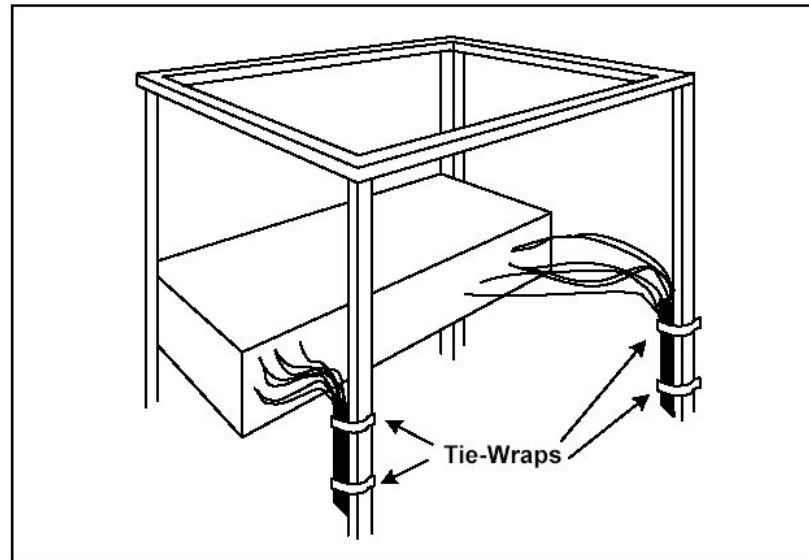

FIGURE 27: Cabling
Considerable weight will be added to the rear panel of the DA3100 Mainframe by the cables. Therefore, all cables should be strained relieved and secured to racks or other supporting structures (see Figure 27). Failure to provide adequate cable support can result in cables separating from connectors. If cable runs are to be stored under an elevated floor, they should be tied to the racks as a guide. If cables are run along the floor, do not allow them to lay in the work area behind the racks. Stepping or tripping on the cables may result in connections being pulled free or wire breakage inside the insulation. The DA3100 Mainframe should be installed in the equipment rack prior to attaching cables.
2. Provide proper support for each cable during the cabling process. The use of tie-wraps is recommended, as shown in Figure 27.